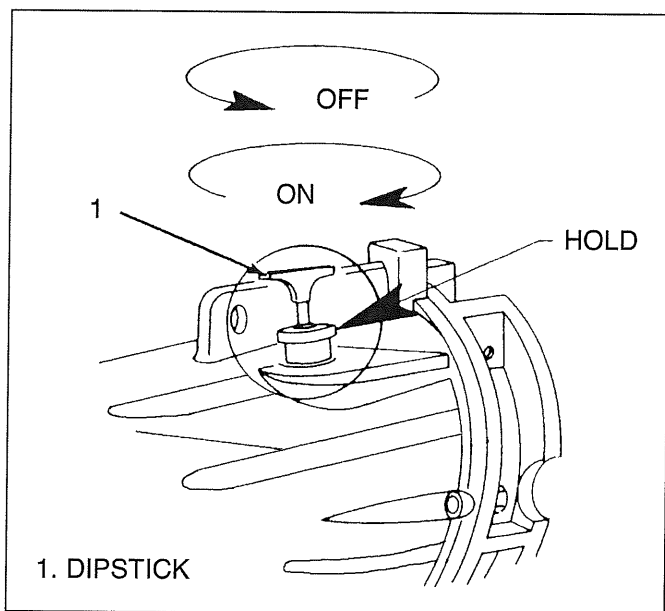

Figure 2-1: Dipstick Removal
2-6 Warm Fluid Level Check With the engine at operating temperature, place the control lever in neutral and shut down the engine. Remove the dipstick (1) by holding the base and turning the T-handle counter clockwise (see figure 2-1) and wipe it clean. Insert the clean dipstick fully into the transmission, withdraw, and read the fluid level. Add or remove fluid as necessary to bring the fluid level to the full mark on the dipstick. Replace